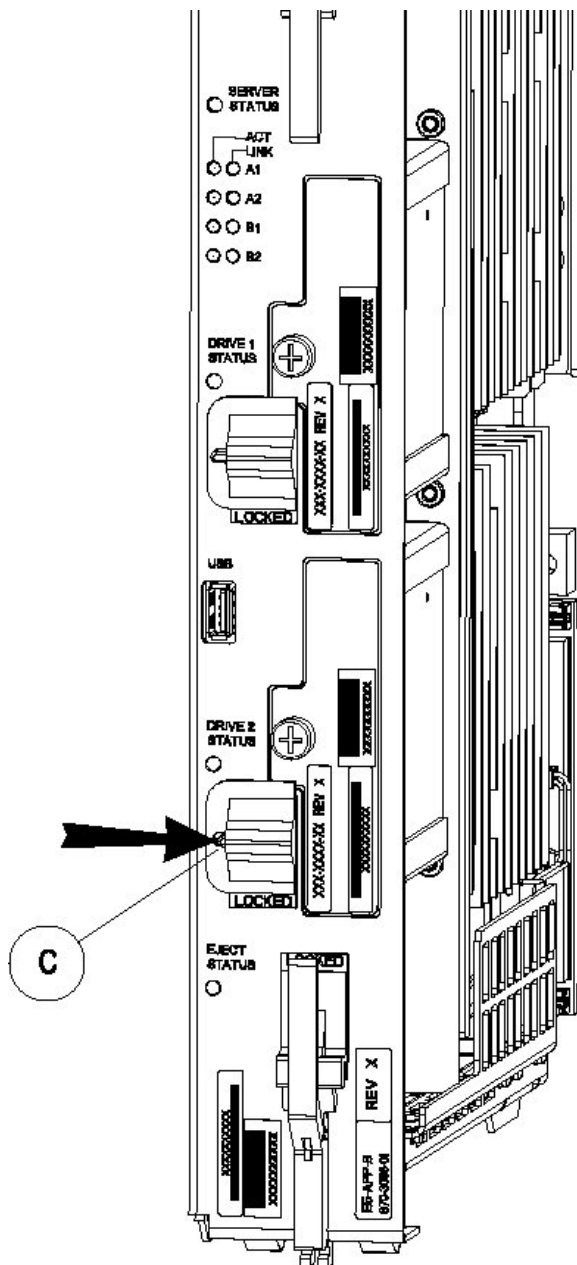

Figure 51: Drive Module Released
Move the switch lock release (C) to the "released" position by pressing in the direction indicated. Refer to Figure 51: Drive Module Released.